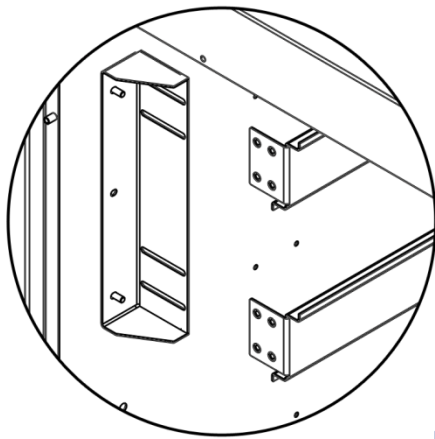

Figure 7
- To Raise: Loosen the screws and raise the interior bracket forwards and fasten to decrease the distance from the LCD screen and the window (Figure 7).